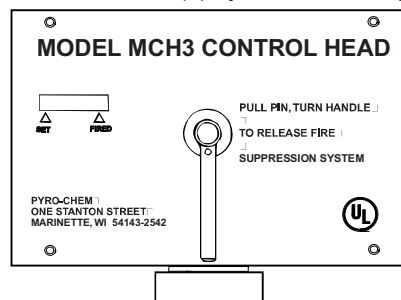

Figure 2-5. Mechanical Control Head.
The Model MCH3 mechanical control head is a fully mechanical control head which can be connected to the PCI-15/17/25s/35/50s/70 cylinder valve. This control head will support a fusible link detection system, a remote mechanical pull station (Model RPS-M), and a mechanical or electric gas shut-off valve. A micro switch (Model MS-SPDT, MS-DPDT, MS-3PDT, or MS-4PDT) can be ordered separately and field installed. It is equipped with a local manual control handle that allows for mechanical system actuation. Operation of the local manual control requires removing the pull pin and rotating the handle clockwise. The Model MCH3 control head can actuate a maximum of five (5) cylinders. See **Figure 2-5**.